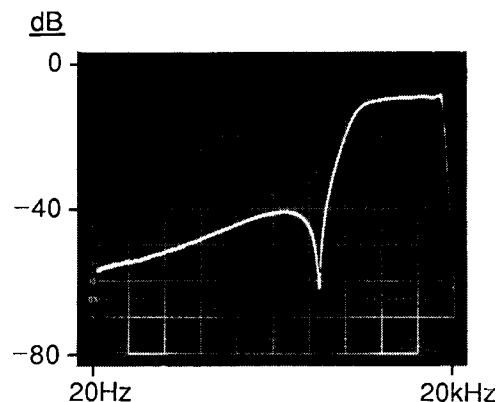

Fig. 4-2: Card #8/#9 Bandpass Filter Response
- C  Verify that the swept response looks like that shown in Fig. 4-2.
Fig. 4-2 shows the response of the 2.2–15kHz bandpass filter that is created by subtracting the output of the 2.2kHz low-pass filter from the output of the 15kHz low-pass filter. Note the high amount of rejection below 2.2kHz, and the very steep slope at 2.2kHz.
If this swept response does not resemble that shown in Fig. 4-2, there is a fault in either the filters or phase correctors between the card input and the output of IC803b (left channel) or IC903b (right channel). This test is both fast and sensitive because accurate cancellation demands accurate matching of the phase and amplitude responses of both the phase-corrected 15kHz low-pass filter and the 2.2kHz low-pass filter. If any circuitry is faulty, the cancellation will not occur accurately.
- C Verify that the swept response looks like that shown in Fig. 4-2.